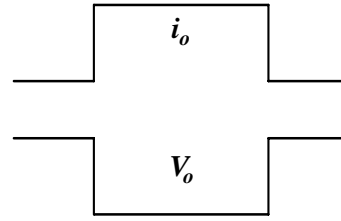
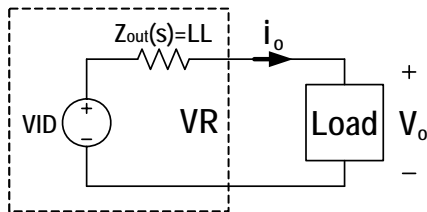

FIGURE 15. DESIRED LOAD TRANSIENT RESPONSE WAVEFORMS
FIGURE 21. VOLTAGE REGULATOR EQUIVALENT CIRCUIT
Assuming the compensator design is correct, Figure 15 shows the expected load transient response waveforms if  $C_n$  is correctly selected. When the load current  $I_{core}$  has a square change, the output voltage  $V_{core}$  also has a square response.
Figure 15 shows the desired load transient response waveforms. Figure 21 shows the equivalent circuit of a voltage regulator (VR) with the droop function. A VR is equivalent to a voltage source (= VID) and output impedance  $Z_{\text{out}}(s)$ . If  $Z_{\text{out}}(s)$  is equal to the load line slope LL, i.e. constant output impedance, in the entire frequency range,  $V_o$  will have square response when  $I_o$  has a square change.